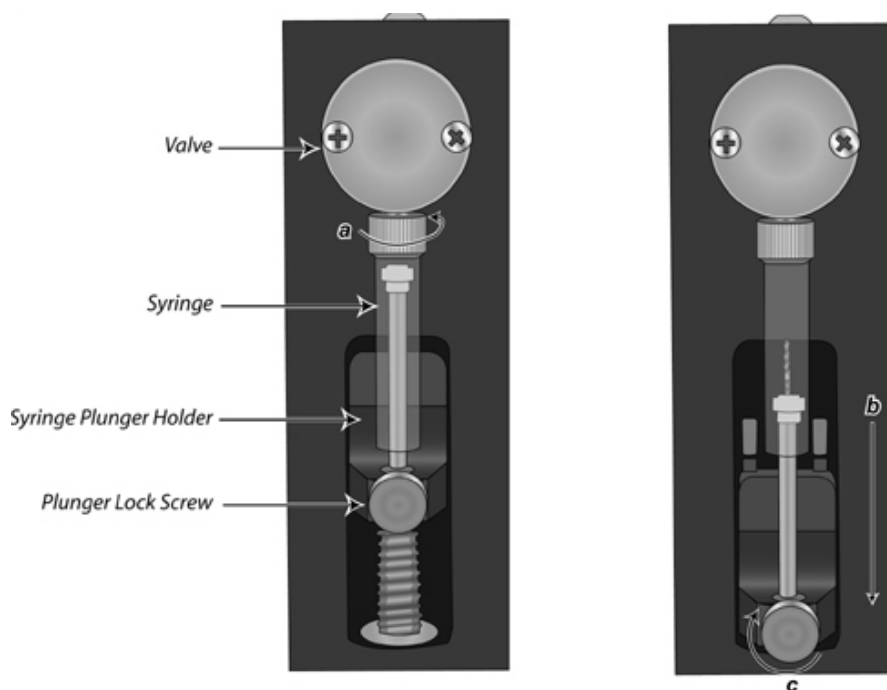

Figure 5–54 Replacing the dispenser syringe
4. Pull the plunger holder arm (Figure 5–53) firmly down (Figure 5–54, item b).
5. Unscrew the syringe from the valve (Figure 5–54, item a).
6. To fit the new dispenser syringe, screw the syringe into the valve, pull the syringe plunger down to the plunger holder arm, and screw the syringe into place. Make sure the plunger lock screw is securely tightened (Figure 5–54).
To replace the 3-port valve (Figure 5–53 and Figure 5–55), it is recommended that you contact authorized technical service: